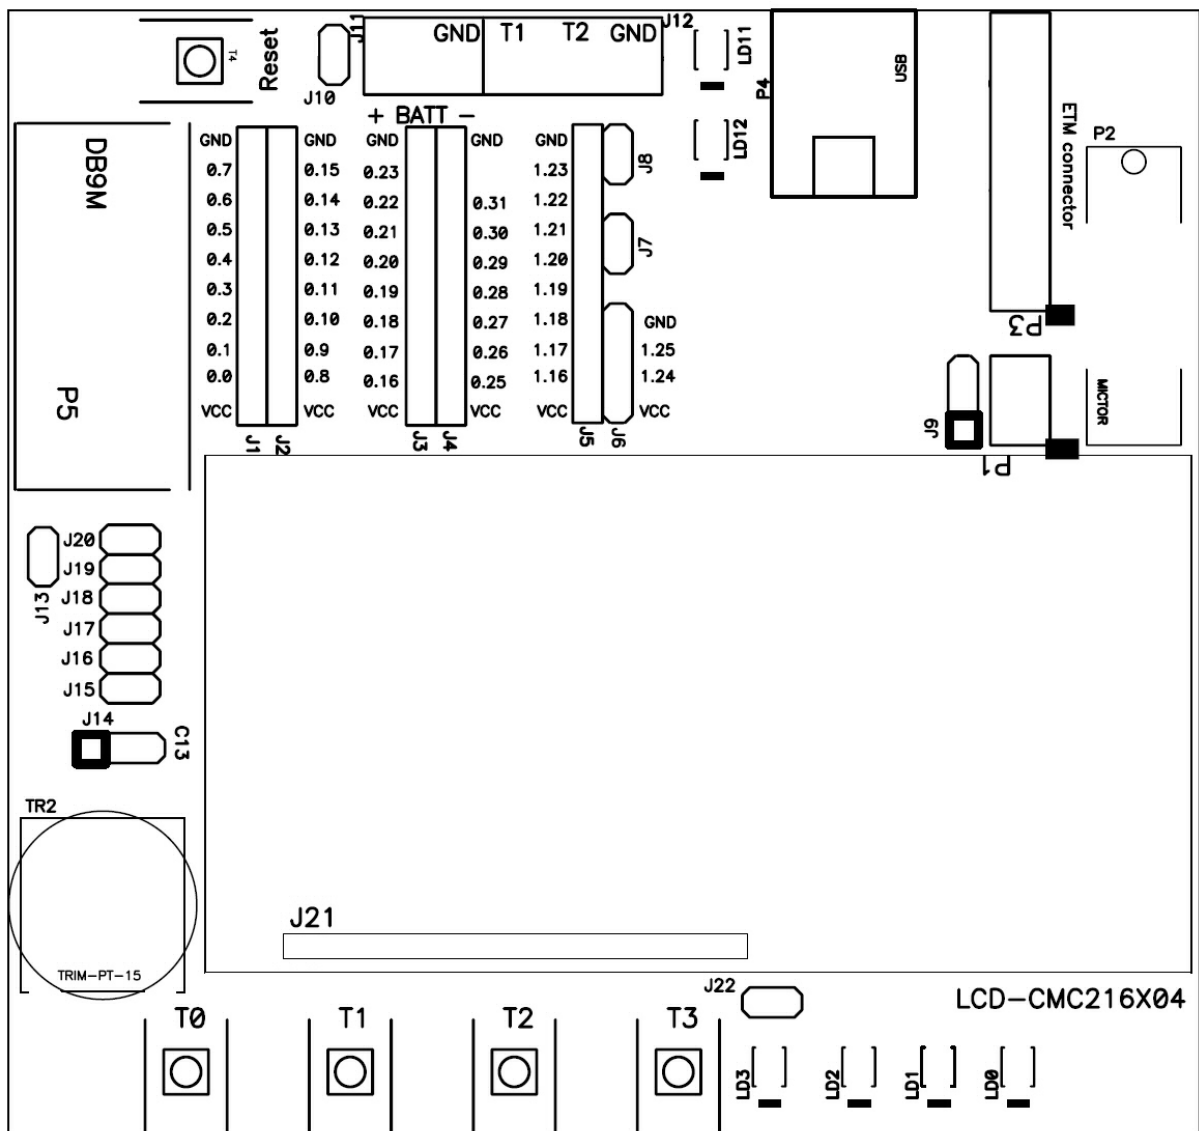

Figure 2: Top View of the ITLPC2138
*Jumper pin 1 is marked with a white square on the ITLPC2138 PCB. If pin 1 cannot be located directly from the ITLPC2138, please use Figure 2 for assistance.